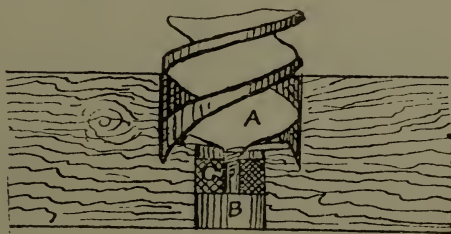

FIG. 33
*C*, which fits the hole *B*, to be counterbored and is screwed onto the bit point, revolving with it and holding it concentric with hole *B*. All of this is illustrated in Fig. 33.